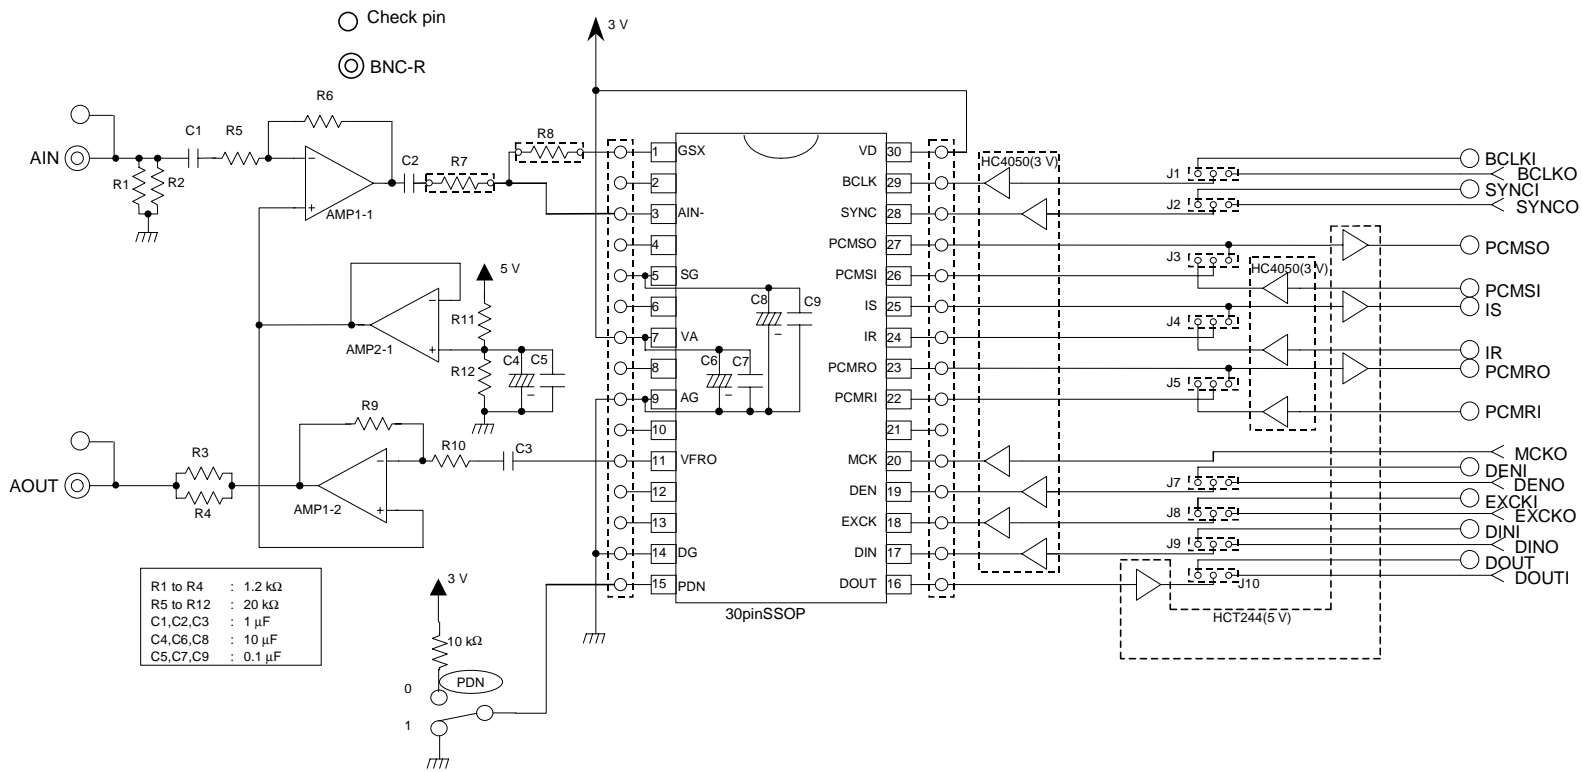

Figure 1 Evaluation Board circuit diagram No. 1
- Evaluation Board circuit diagram Figures 1 and 2